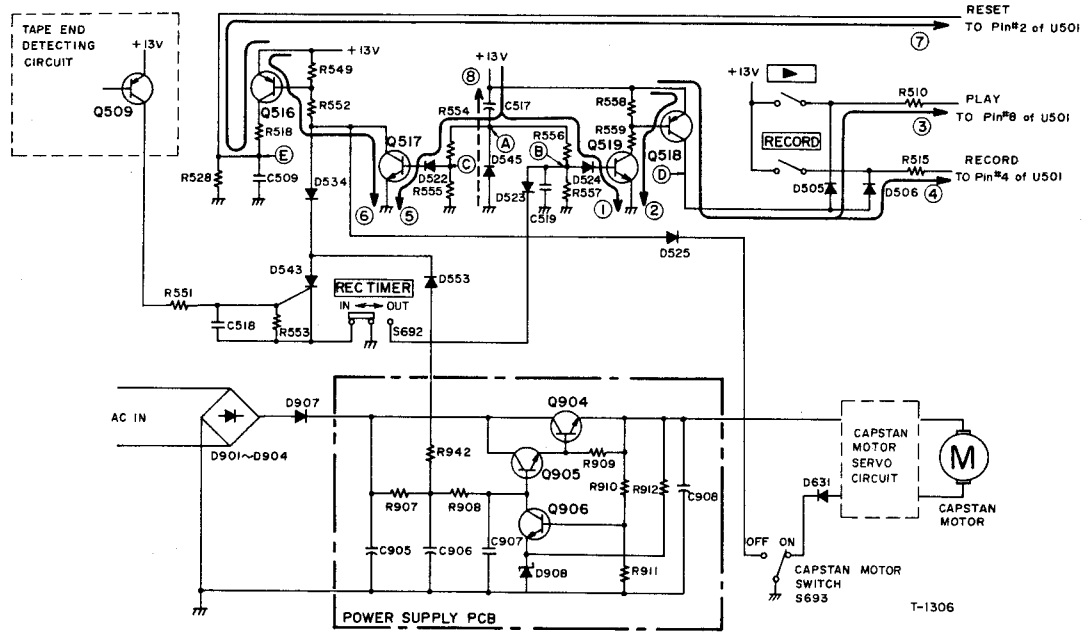

Fig. 20 Timer Start Circuit
(1) Timer start circuit
Refer to Fig. 20. When the REC TIMER switch S692 is off, Q519 base is grounded and thus Q519 does not operate. When the deck is powered with S692 turned on, current flows in C517 via routes (1) and (2). Q519 is turned on by the current in route (1). Q519 collector current turns on Q518. Q518 supplies high level signals to pin 4 and 8 of the SYS-CON (via routes (3) and (4)). As described in the paragraphs 2.1, when the deck is powered, Q517 is turned on via route (5) and Q516 is turned on via route (6) and an initial power reset signal is supplied to the SYS-CON via route (7). The reset signals have priority over all other input signals. Thus, the SYS-CON does not operate as long as it is supplied with the reset signal.